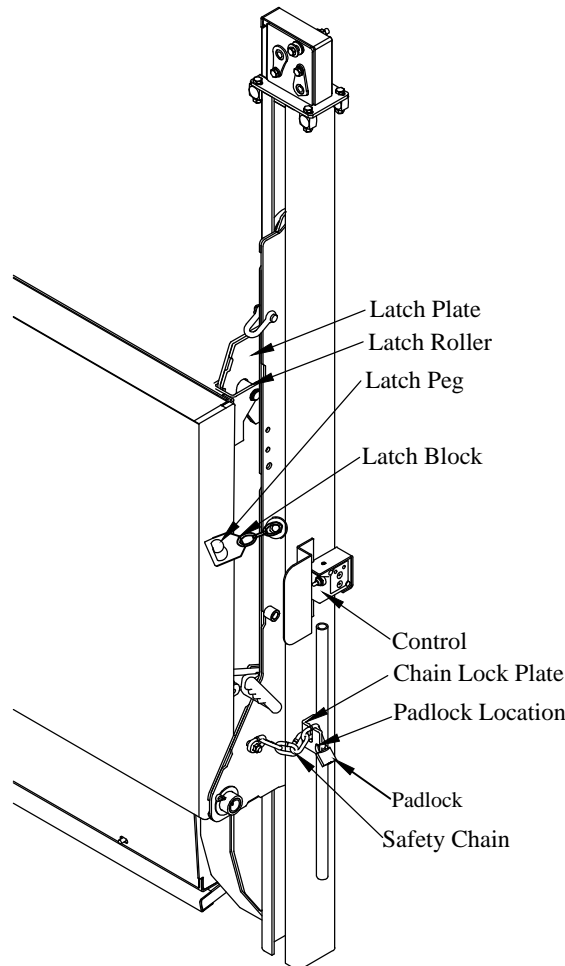

Figure 13: Storage/Travel Position.
- Step 1. Unlock and remove the Padlock. Move the Safety Chain from the Chain Lock Plate. Put the Padlock in the same location it was removed from (Figure 13).
- Step 2. Verify that the Latch Block is securely hooked on the Latch Peg on the platform (Figure 13).
- Step 5. Verify that the Latch Block is securely hooked on the Latch Peg on the platform (Figure 13).
- Step 6. Raise the platform until the platform Latch Rollers drive up into the Latch Plates (Figure 13).
- Step 7. Place the loose end of the Safety Chain in the slot on the Chain Lock Plate (Figure 13).
- Step 8. Always install the Padlock and deactivate the control when not in use (Figure 13).